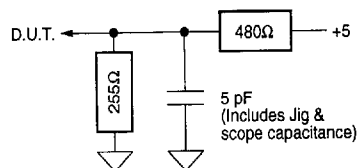

Figure 1b. Output Disable Timing Load
- Transition is measured ± 500 mV from steady-state voltage with load of Figure 1B. This parameter is sampled rather than 100% tested. At any given voltage and temperature, t_{CHZ} max is less than t_{CLZ} min for a given device and from device to device.